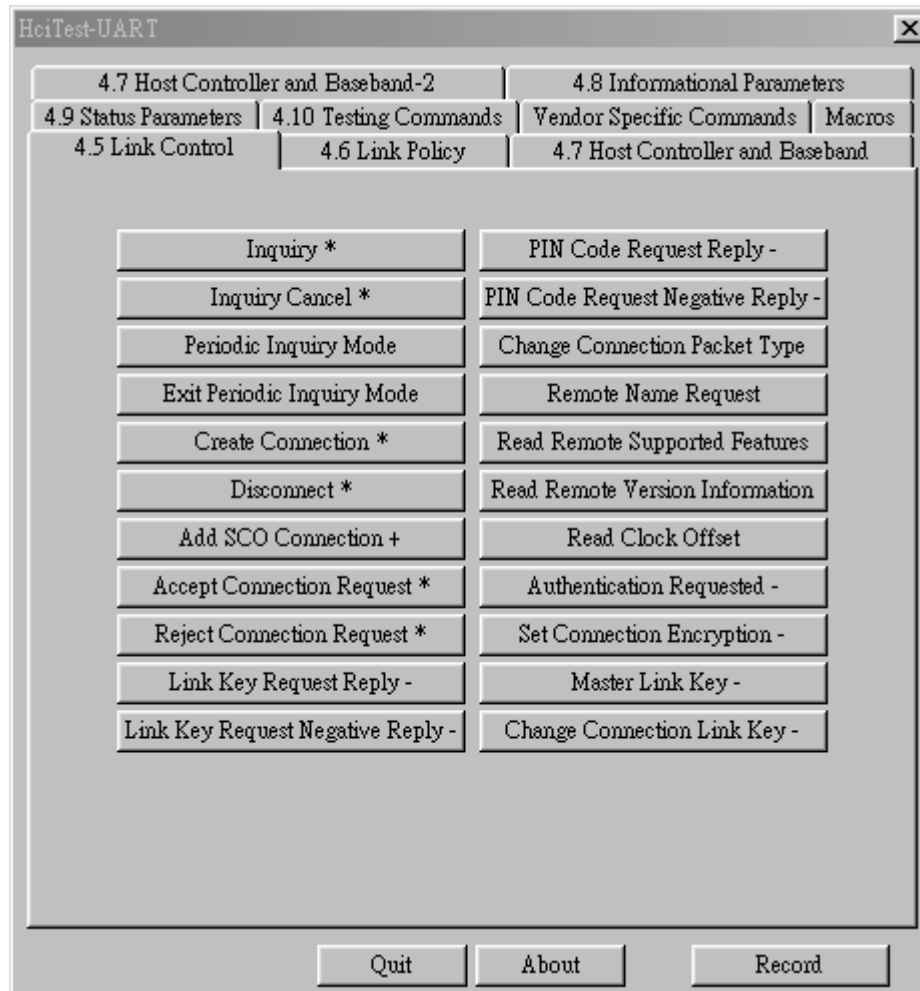

Figure 8: Configure HCI Test Program
- Two windows will be displayed, "**HCI Test**" is for configuration (as Figure 8) and the "**Results**" is for test result (as Figure 9).